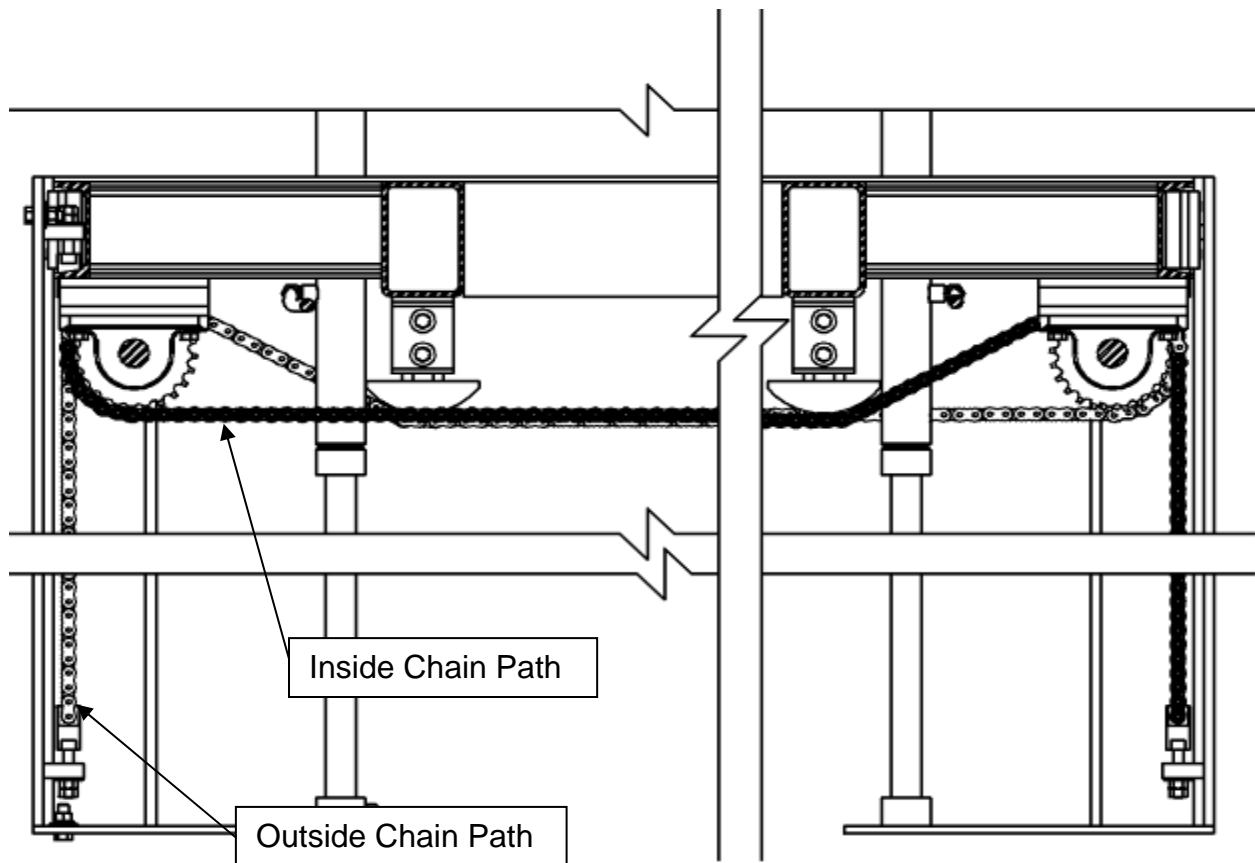

Figure 24 Finished Chain Paths
- When complete, the path for both chains should look like **Figure 24**.